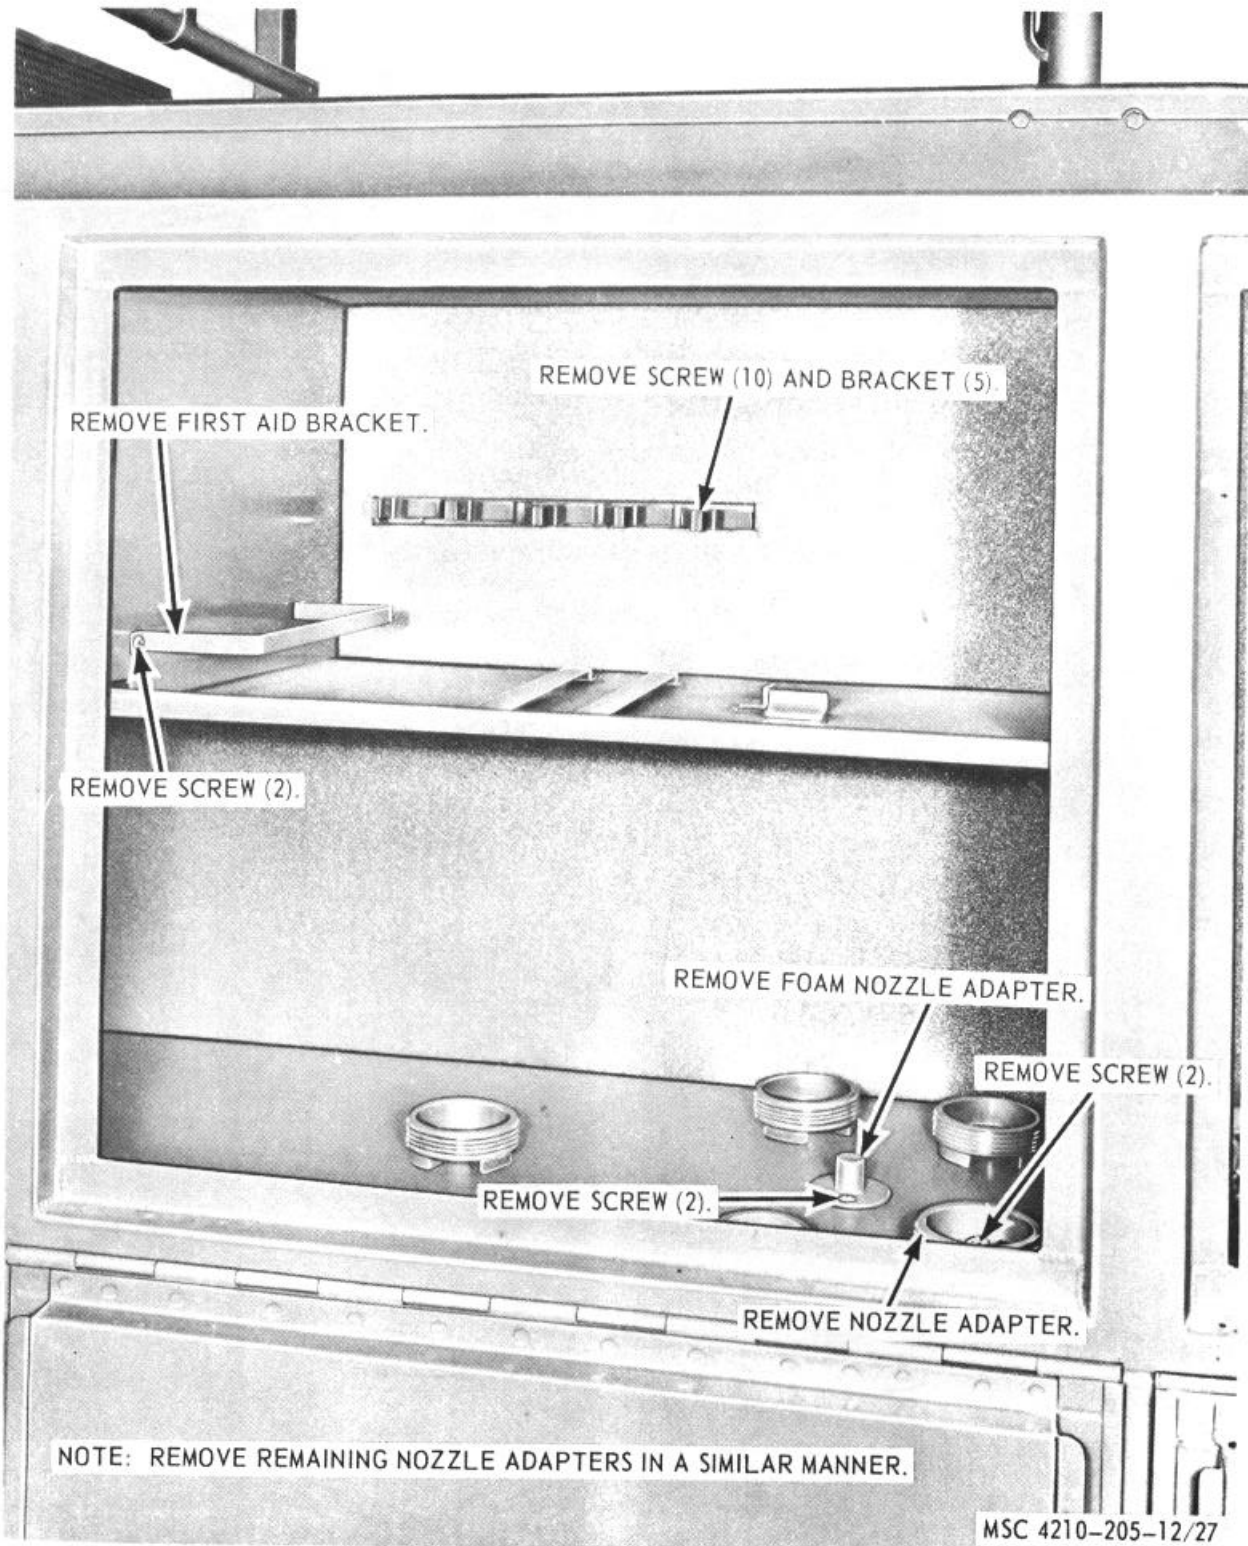

Figure 27. First aid bracket, hand lantern bracket, and fittings, removal and installation.
a. *Removal.* Refer to figure 27, and remove
- (1) Clean all parts with an approved cleaning solvent, and dry thoroughly.
- (2) Inspect all parts for damaged or defective condition.
- (3) Replace or repair damaged or defective parts as necessary.
c. *Installation.* Refer to figure 27, and install the first aid bracket, hand lantern bracket, and fittings from the compartment.